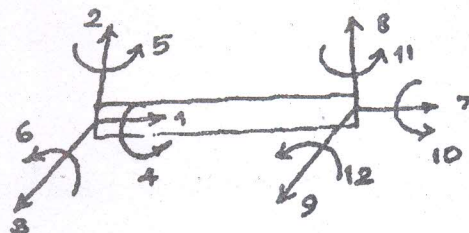

Fig. 3
13. Formulate the member stiffness matrix for the space frame member as shown in figure 3. (16)